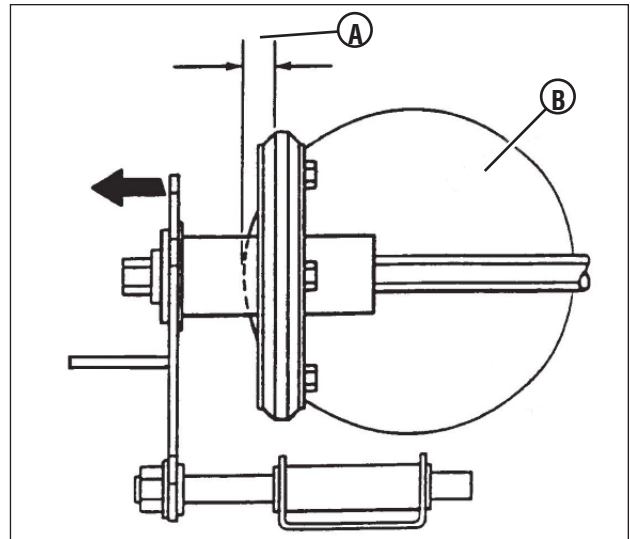

Figure 26: Proper driven disc adjustment
3. Slide the driven disc assembly over to 1/8" (A, Figure 26) from the outside edge of the drive disc (B).